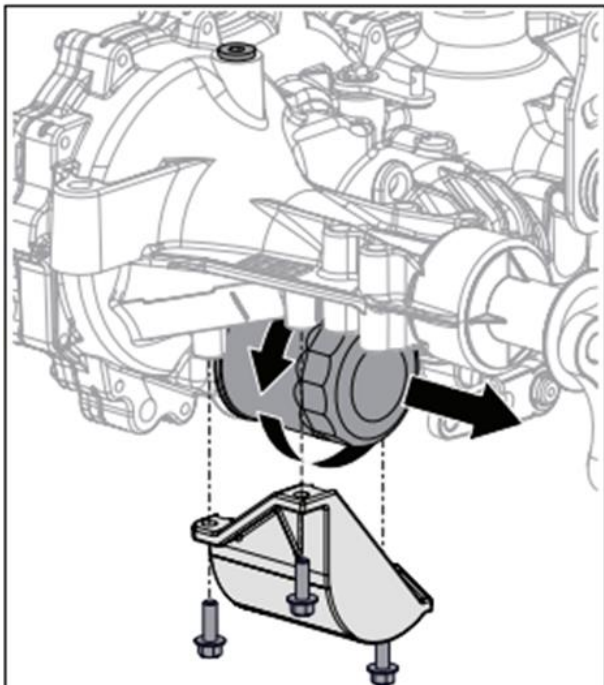

Figure 37
3. Position container under oil filter to catch used oil (*Figure 37*).